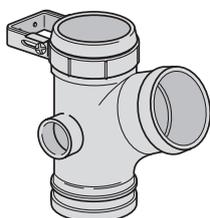

Fig.9c 144 Bracket on fitting
Step 3 – Locate strap tongues outside backplate *(Fig.9c)*